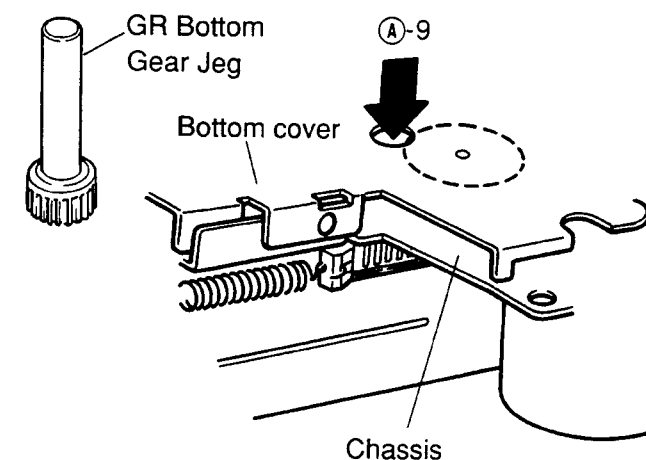

Figure 4
- (12) Since the hooks marked ①-8 will be lifted slightly as shown in Figure 4, insert the jig through the hole ①-9, and fix it turning the jig slightly in the direction ①-11.
(Refer to Figures 4 and 5.)
Instead of operation (14), the eject operation can be performed by mounting the mechanism to the product. (Refer to Figures 4 and 5.)